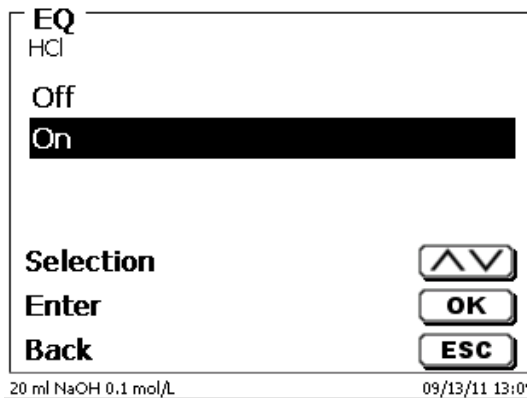

Fig. 137
Automatic detection of the equivalence point (EQ) can be switched on and off for linear or dynamic titration (Fig. 137).